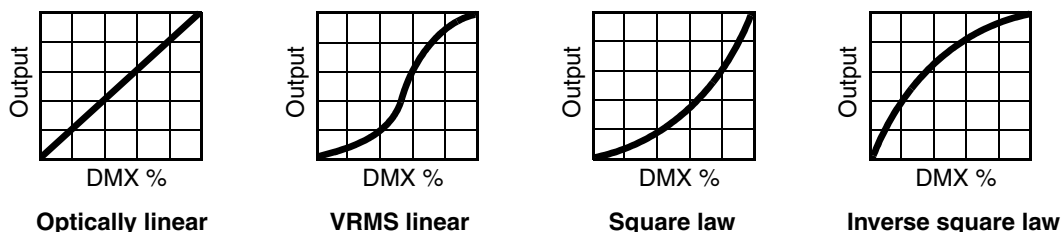

Figure 11: Dimming curve options
- **DIMMING CURVE** provides four dimming options (see Figure 11):